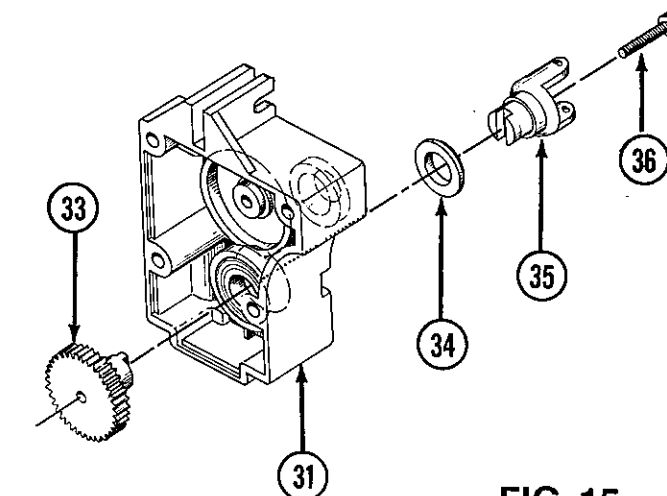

FIG. 15
15. Press output gear (33) into inner bearing seat of right half of gearbox (31). Fig. 15.
16. Slide outdrive spacer (34) onto U-joint outdrive (35) with the flanged side away from U-joint yoke. Fig. 15.
17. Install U-joint outdrive (35) into lower bearing of right half of gearbox (31). Rotate U-joint outdrive (35) until interlocked with output gear (33). Fig. 15.
18. Fasten the two together with a 4-40 x 1/2" socket head screw (36) inserted through the U-joint outdrive (35) and thread into the output gear (33). Fig. 15.
19. Repeat steps 13 through 18 with left half of gearbox (37).